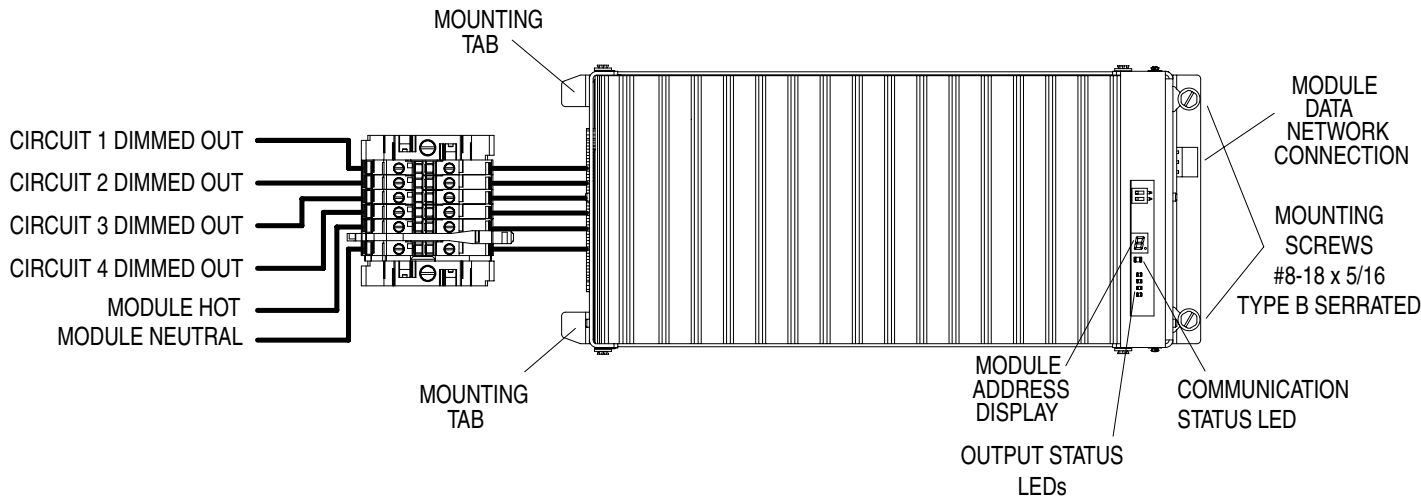

Figure 1 - LM4D MVOLT Details
Mount the LM4D module by inserting the mounting tabs on the left into the slots in the back of the enclosure. Secure it with the (2) mounting screws provided. See Figures 1 and 3 for details.
The module's status LED will illuminate green to indicate there is communication with the LMP controller. See Figure 1 for details. (Controller power must be on)